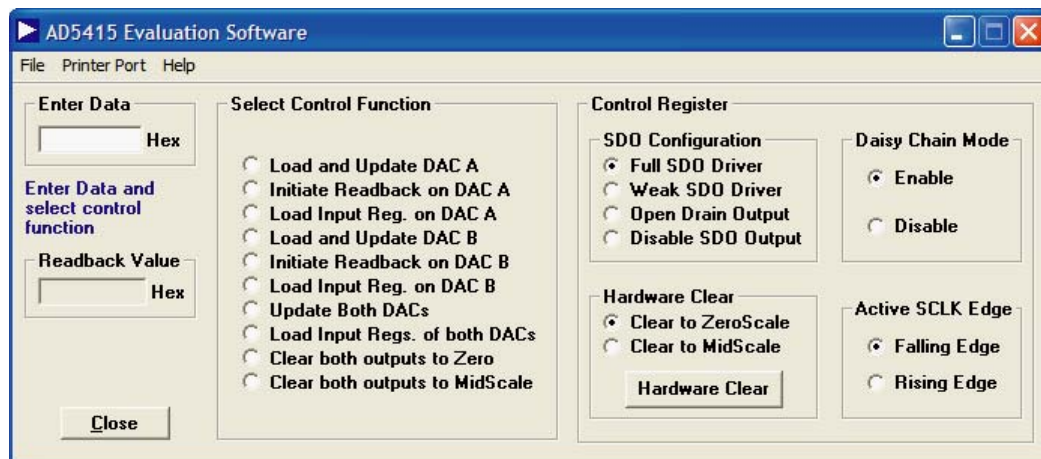

Figure 3. AD5415 Evaluation Software Dialog Box
3. Click OK to open the **AD5415 Evaluation Software** dialog box, as shown in Figure 3.
From the **AD5415 Evaluation Software** dialog box, shown in Figure 3, you can evaluate all the functions of the AD5415. Table 1 and Table 2 describe the control functions and the control registers, respectively.